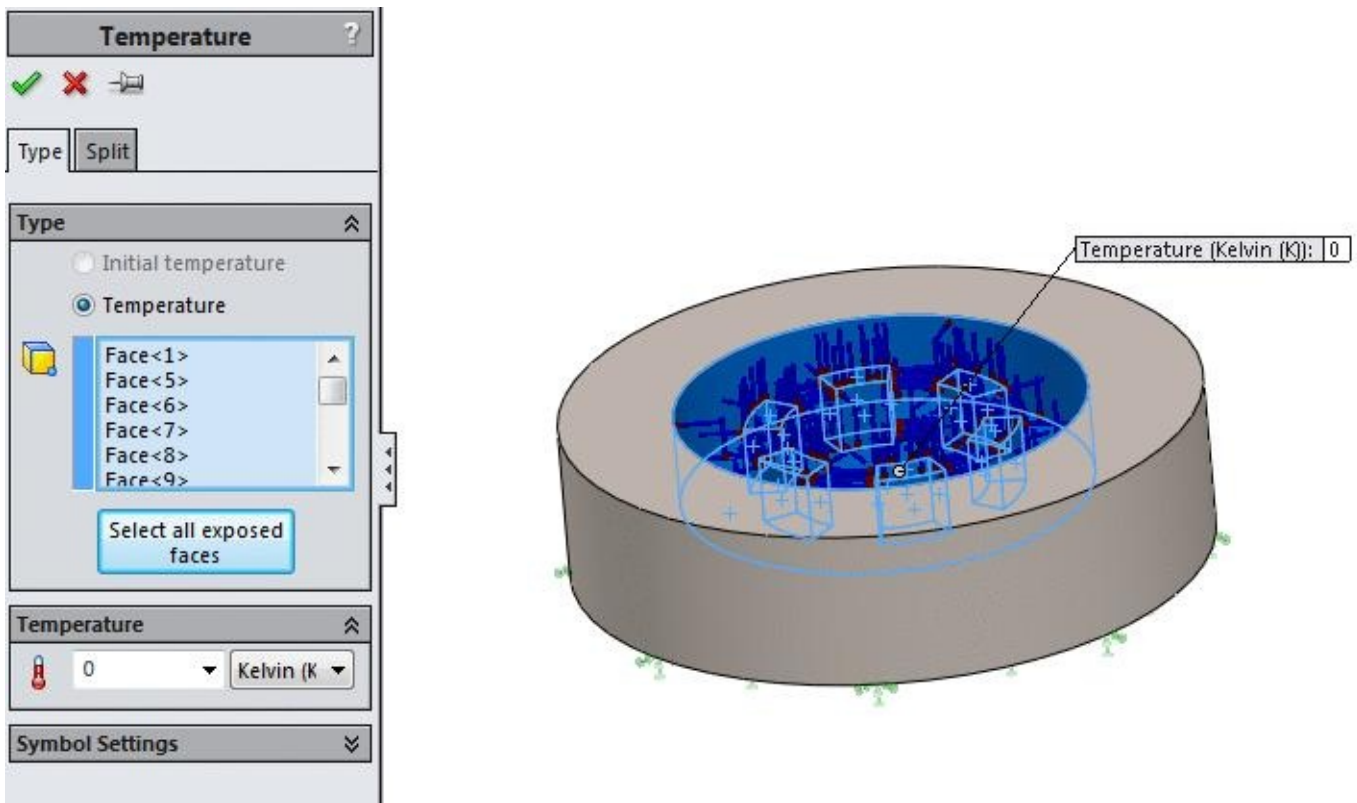

Figure-6. Faces selected for temperature
- Press and hold the **CTRL** key and select the bottom, side and top face of the die; refer to Figure-6. The faces will get deselected.